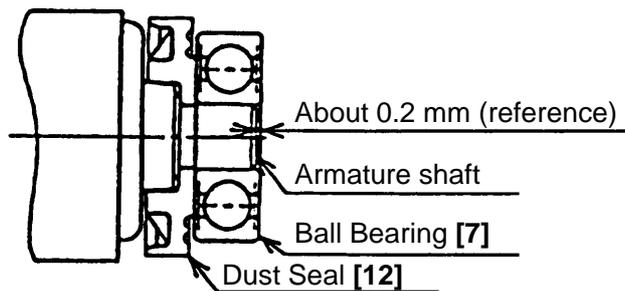

Fig. 5
(1) General precautions
- ① Ensure that the terminals of the stator and the snap switch are not bent or otherwise damaged.
- ② Generously lubricate the teeth of Gear [14] and Pinion [5] with grease. Rub grease onto the teeth with your fingers so that the grease reaches each tooth bottom. Note that the Gear [14] and the Pinion [5] may wear faster than normal if under-lubricated.
- ③ Be sure to soak the inner diameter of the Felt Packing [18] with machine oil. Otherwise, its dust-sealing function will fail to work properly, resulting in earlier damage of the Ball Bearing [17].
- ④ When replacing the Armature [9] and the Ball Bearing [7] on the commutator side, press inward on the Dust Seal [12] while taking care of its direction until the end face of the Dust Seal [12] contacts against the end surface of the Armature [9] and make sure that Dust Seal [12] cannot be turned freely by hand. Keep the end face of the armature shaft approximately 0.2 mm (reference) distance inward of the end face of the Ball Bearing [7]. (See Fig. 5)